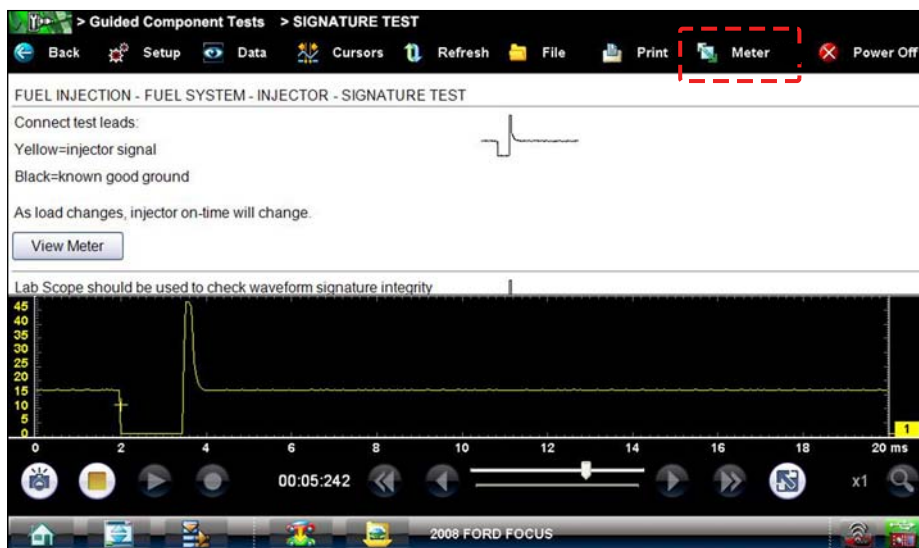

Figure 6-10 Sample view meter screen
- **View Meter**—opens a live meter set up to perform the test in the lower portion of the screen (Figure 6-10). Once the meter view is open, the Guided Component Test toolbar at the top of the screen is replaced by the Scope Multimeter toolbar, which allows you to make adjustments to the settings. See “Scope Multimeter Toolbar” on page 83 for details.
A Meter icon, which is only available in the Guided Component Test view meter mode, appears on the upper toolbar (Figure 6-10). Three view meter options are available:
1. With View Meter active (Figure 6-10), select the toolbar **Meter** icon once and the meter expands to fill the entire screen.
3. Select the **Meter** icon a third time to close the separate window and return to the standard view as shown in Figure 6-10.